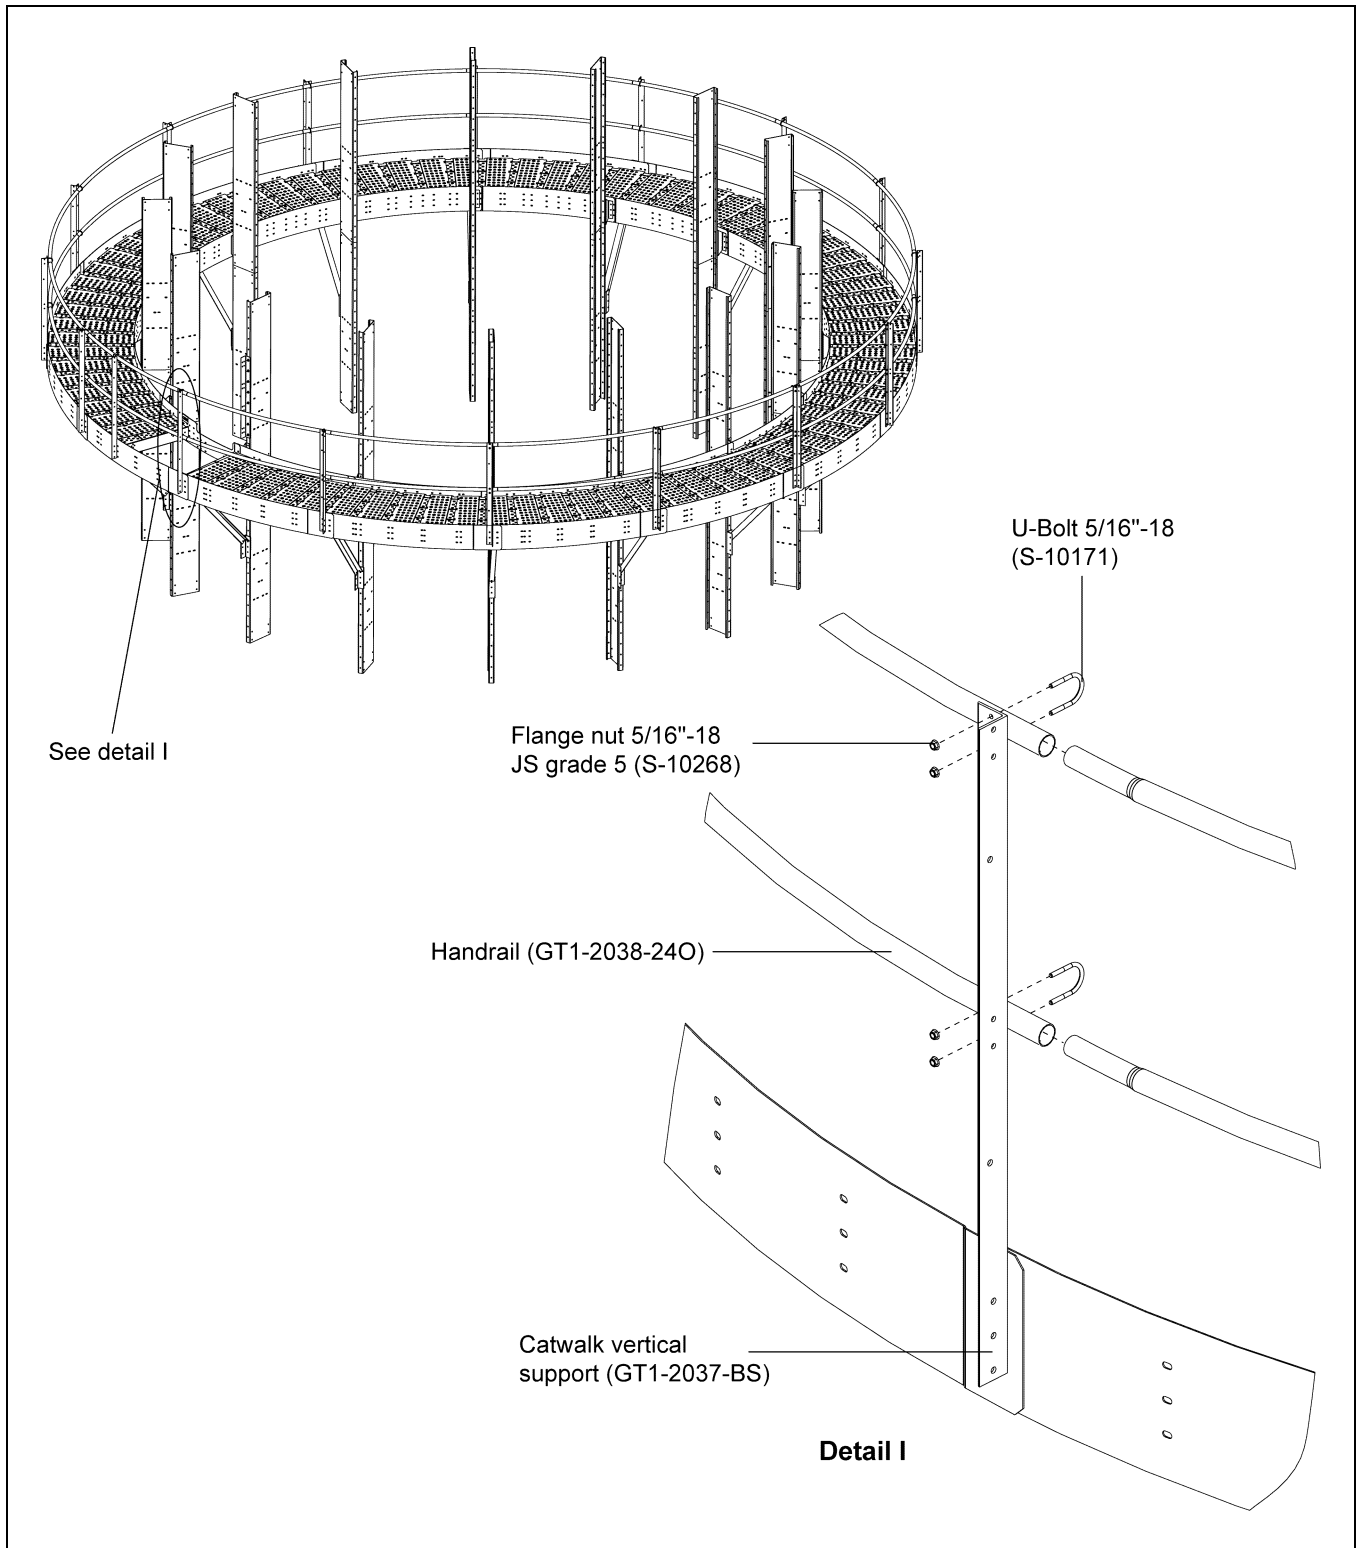

Figure 4U
1. Install the handrail (GT1-2038-24O) to the catwalk vertical support (GT1-2037-BS) using 5/16"-18 ZN U-bolts (S-10171) and 5/16"-18 JS grade 5 nuts (S-10268) to tighten the handrail with vertical post. (See Figure 4U.) (See Page 27.)